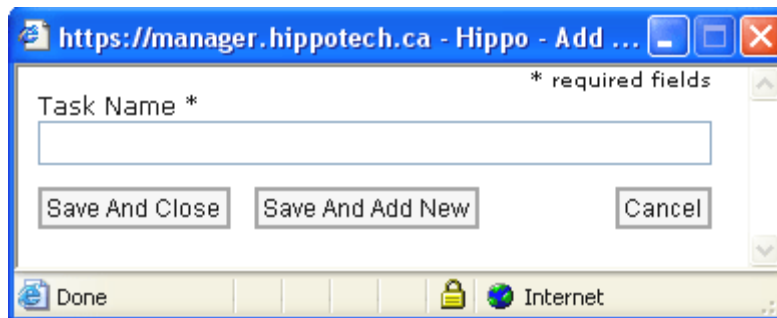

Figure 60: Task
- h. Task Checklist (click the **add** to add tasks to this PM work order) (See Figure 60)